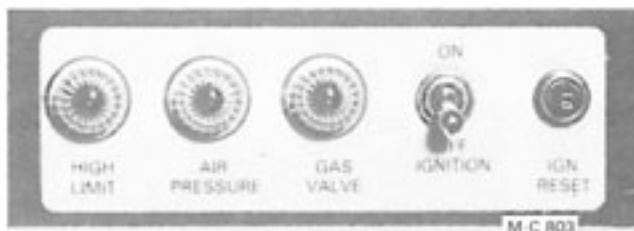

Figure 43
8. If after several attempts for ignition there is still no flame, push the 0.1 (1/10th) amp. ignition reset button (circuit breaker) on the control panel, see Figure 43. This circuit breaker protects the ignition board from heat build up due to repeated ignition attempts.
1. Push the ignition reset button (0.1 (1/10th) amp., circuit breaker) on the control panel in, see Figure 43. The circuit breaker protects the